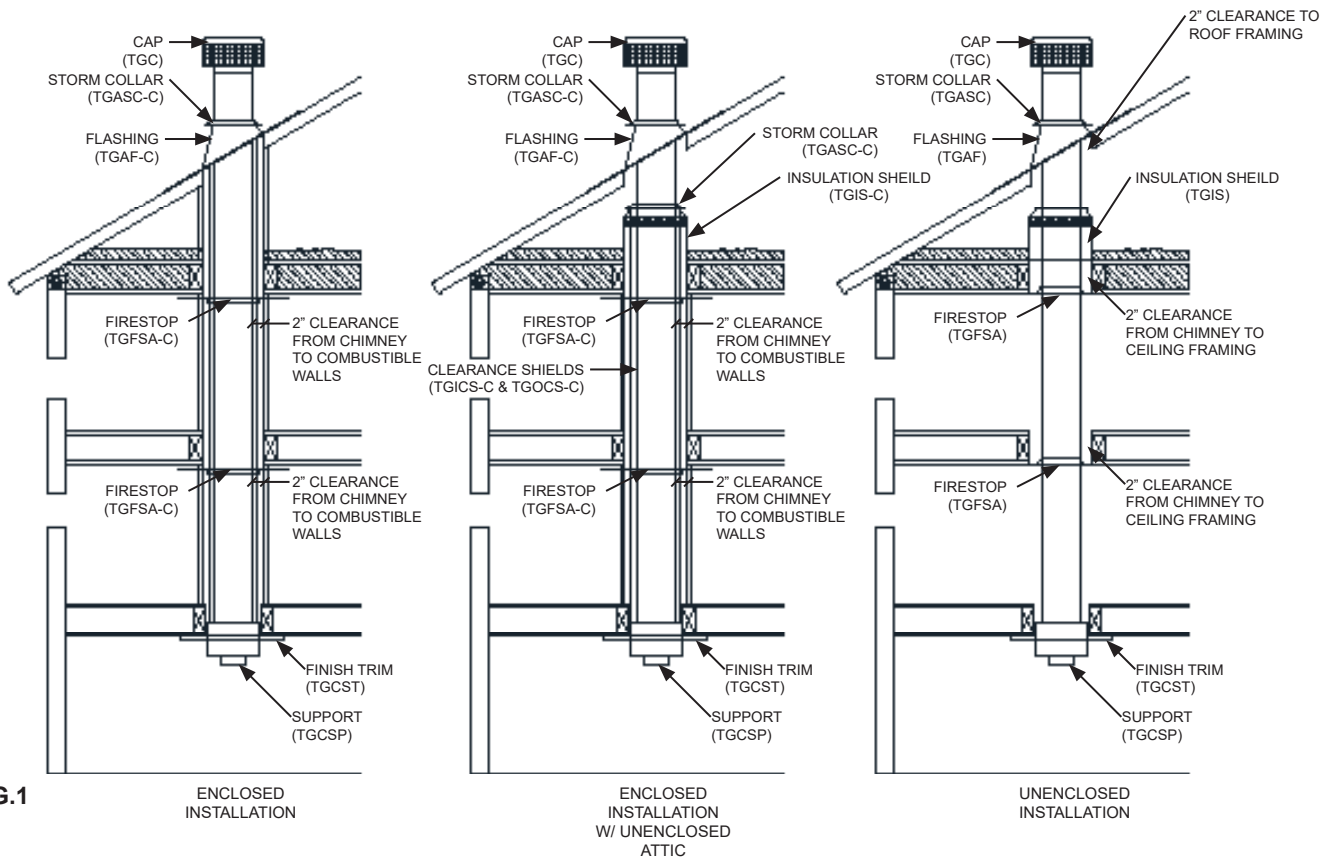

FIG.1
2. For factory-built wood burning fireplaces, Clearance Shields are usually not required. Refer to fireplace manufacturer and follow fireplace installation instructions to confirm if chimney is approved for use without shields (See **FIG 1**).
3. On wood stove or coal stove application and in area where the chimney is completely enclosed, it's required to install Clearance Shields around the chimney. Clearance Shields are of a telescopic, slip fit design and are secured at each joint with hex sheet metal screws provided. Locate shields and secure at the (3) predrilled hole locations with #8 self tapping hex screws (provided) For venting of gas or oil burning appliances Clearance Shields are not required even where the chimney is enclosed.